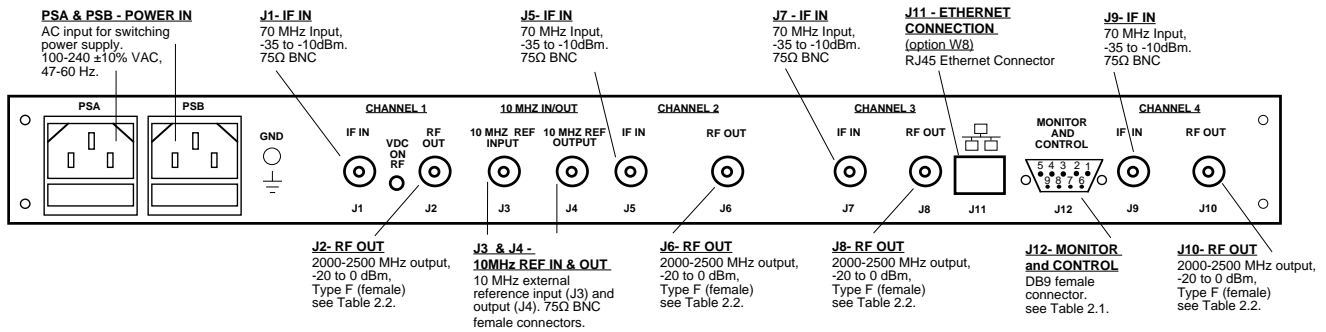

FIGURE 2.2 2415-425 Rear Panel I/Os
Figure 2.2 shows the input and output connectors on the rear panel.
1. Connect a -35 dBm to -10 dBm signal to IF IN, for the designated channel (ie: J1, J5, J7, J9), (Figure 2.2).
2. Connect the RF OUT, for the designated channel (ie: J2, J6, J8, J10), to the external equipment, (Figure 2.2).